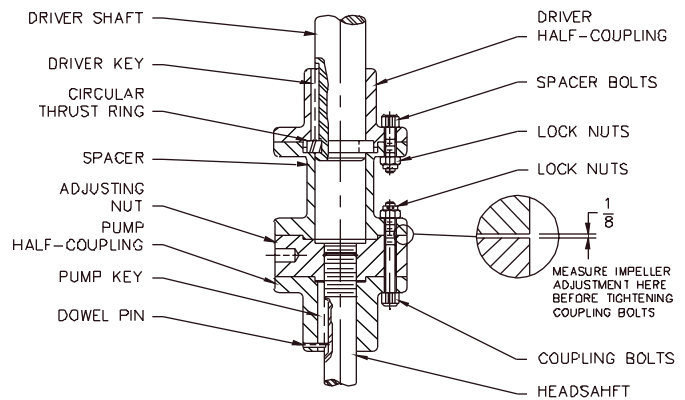

Fig. 3.7 #1 Thru 4 Adjustable Flanged Coupling (Illustrated with Spacer)
13. Thread the adjusting nut up until there is 1/8" gap between nut and spacer or driver half-coupling. See Fig. 3.7.
Impeller adjustment when using solid shaft drivers is accomplished in the adjustable flanged coupling located below the driver. The coupling assemblies are adjusted exactly the same. The only difference in design is #1-4 has a separate machined register on driver coupling for alignment and #4HD - #7 utilizes the shaft extension thru driver coupling for alignment to spacer or adjusting nut. Refer to Fig. 3.7 for exact detail of coupling supplied.
3. Thread adjusting nut down until the proper impeller adjustment as outlined in paragraph 3.8 can be measured between the adjusting nut and spacer or driver half coupling as shown in Fig. 3.7.